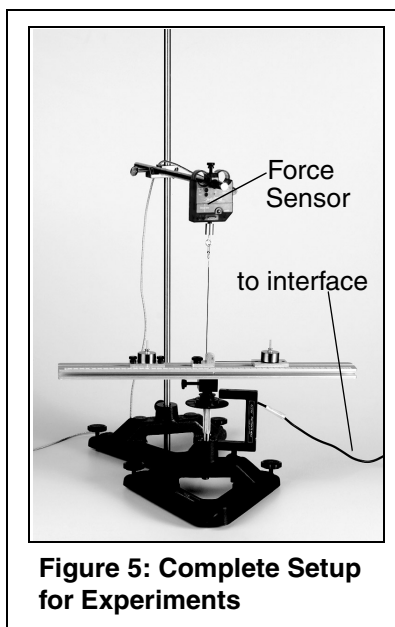

**Figure 4: Mass Holders**
14. Add a mass over the cable on the sliding mass holder; then tightly screw on the knurled nut to hold the mass in place (Figure 4).